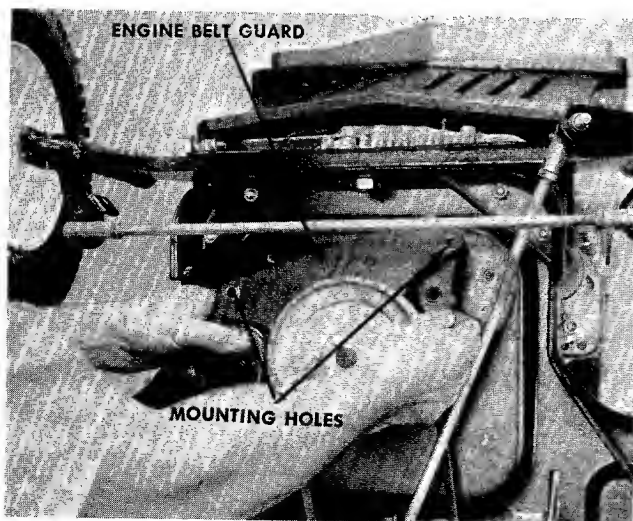

FIGURE 31. BELT GUARD REMOVAL
- Step 8. Remove the engine belt guard by removing the two front engine mounting bolts. See figure 31.